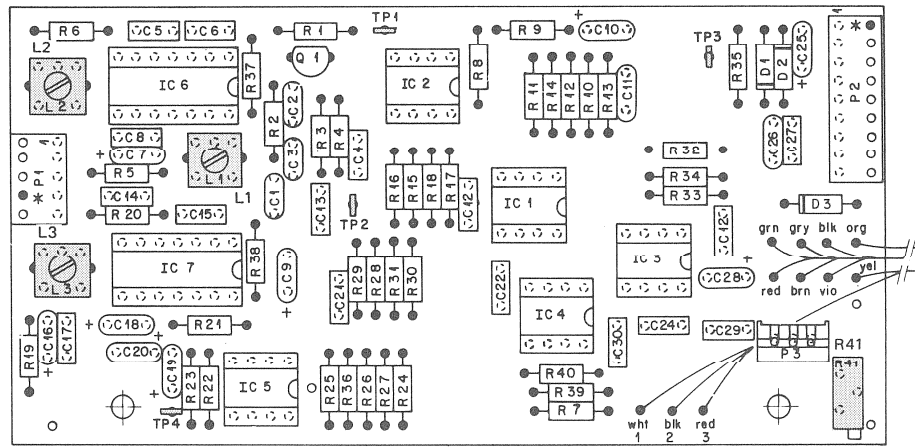

Fig. 3.1.10
- Set oscillator frequency with L1 to 5.5 MHz  $\pm$  500 kHz (Fig. 3.1.10).